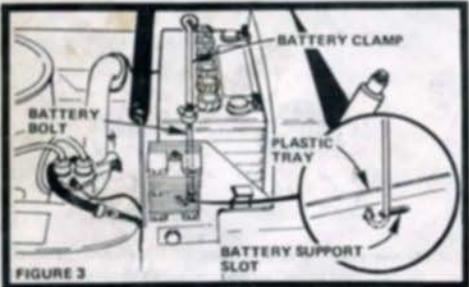

FIGURE 3
- b. Remove tape from Plastic Tray and move it slightly to the right to hook one Battery Bolt into the slot on the left side of the Battery Support (Fig. 3). Return Plastic Tray to original position (drain hole to operators R.H. front).
- c. Place Battery in Plastic Tray (Battery Terminals to rear of Tractor) (Fig. 3).